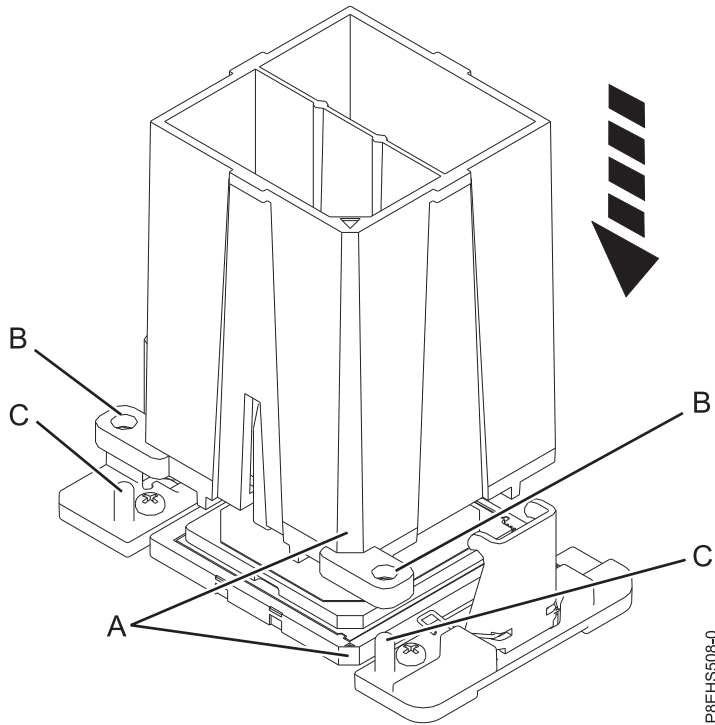

Figure 74. Lowering the removal tool onto the system processor module
- a. Using the supplied removal tool (part number 01AF101), align the beveled corner (**A**) of the tool over the beveled corner of the system processor module as shown in Figure 74 on page 66.